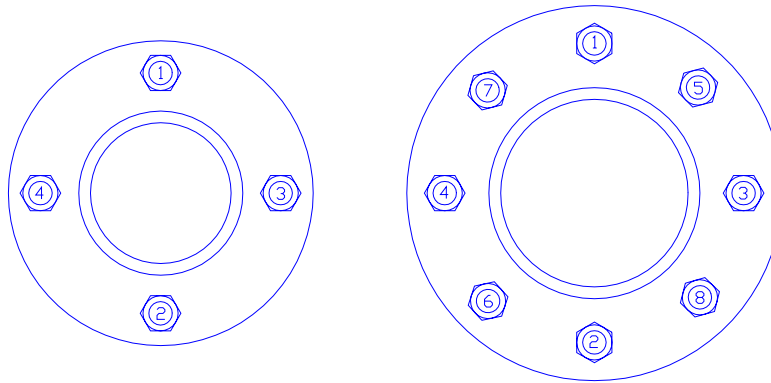

Figure 4
- h) Use a torque wrench to complete the tightening procedure. Follow the proper sequence as demonstrated in Figure 4. The correct torque value for the gasket material utilized can be found in Table 2. The nuts should be tightened in increments of 3 ft-lbs.